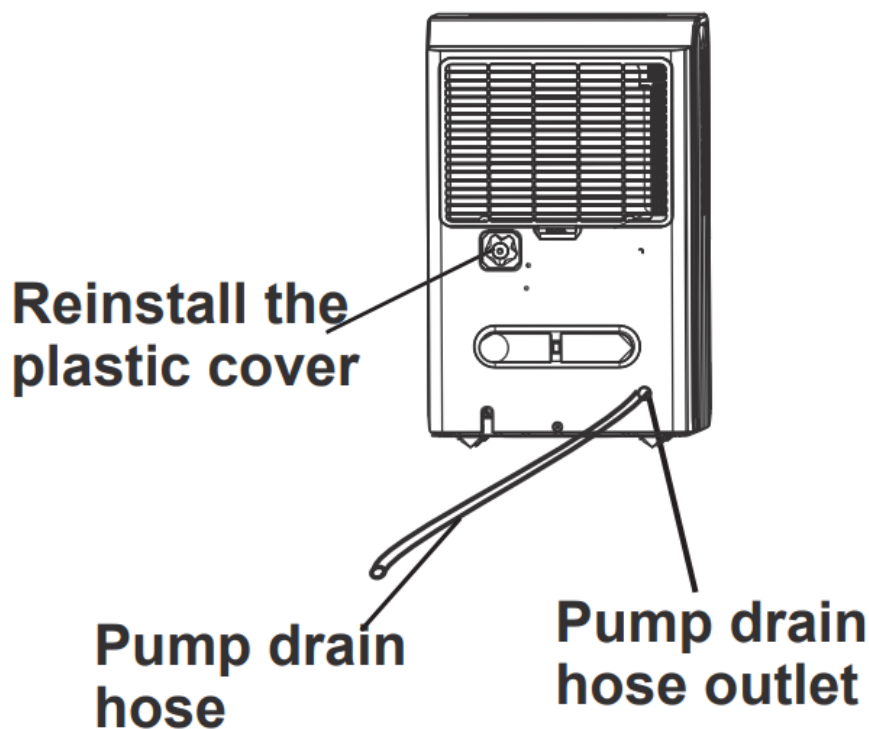

Fig. 11
- Remove the continuous drain hose from the unit and install the plastic cover to the continuous drain hose outlet of the unit by clockwise rotation. (See Fig. 11)
- Insert the pump drain hose into the pump drain hose outlet for at least 15mm (See Fig. 11), then lead the water hose to the floor drain or a suitable drainage facility.